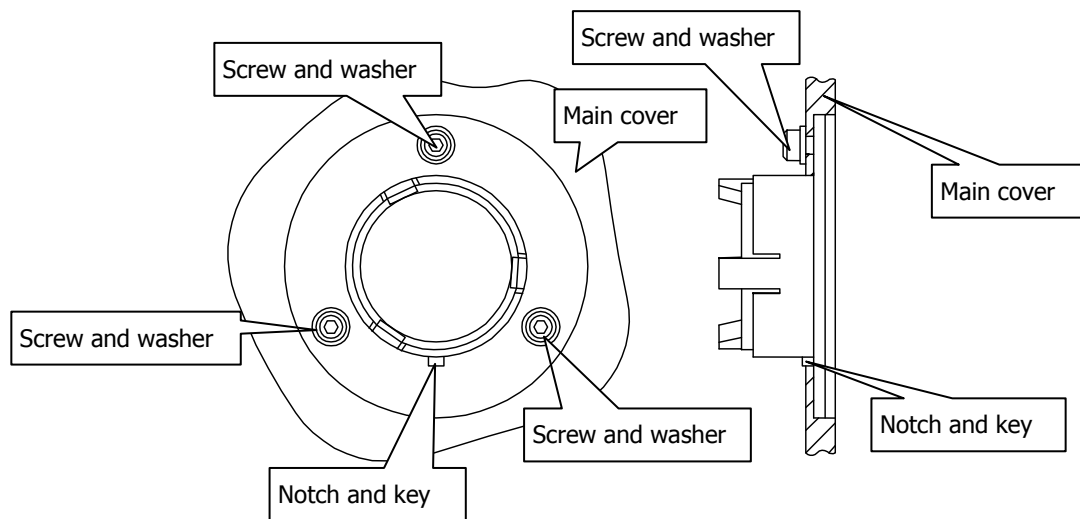

Figure 4 Window installed in main cover
7. Secure the window to the main cover by fitting the screws and washers and tightening the screws using the hexagonal wrench (Figure 4).